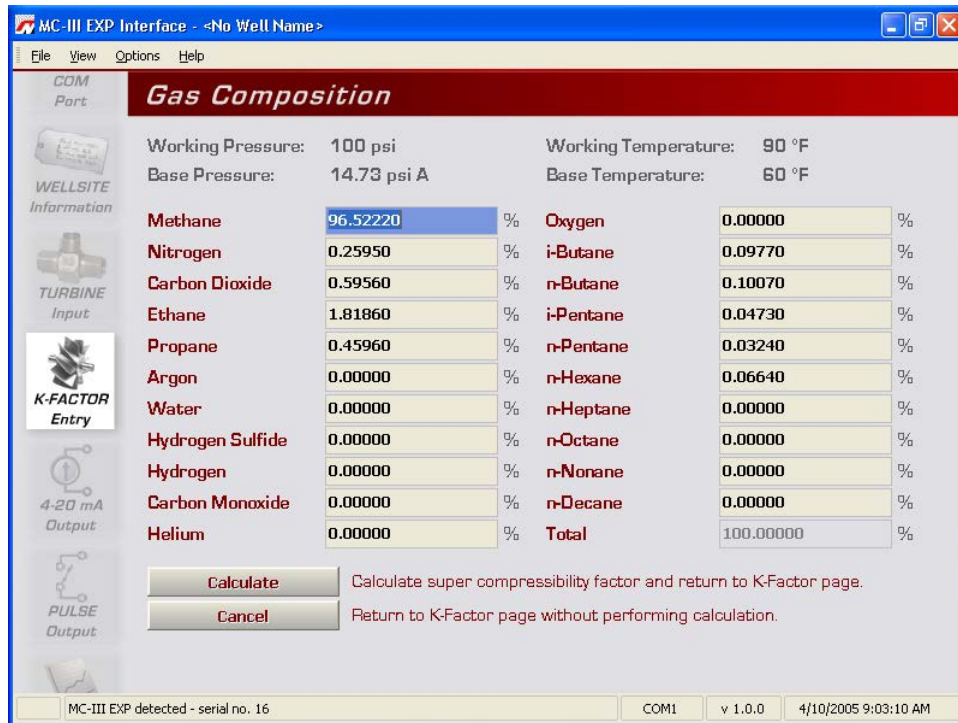

Figure 4.27—Gas Composition screen
6. Enter a known compressibility factor, or press “Calculate compressibility from gas comp.” to view a selection of gas compositions (Figure 4.27).